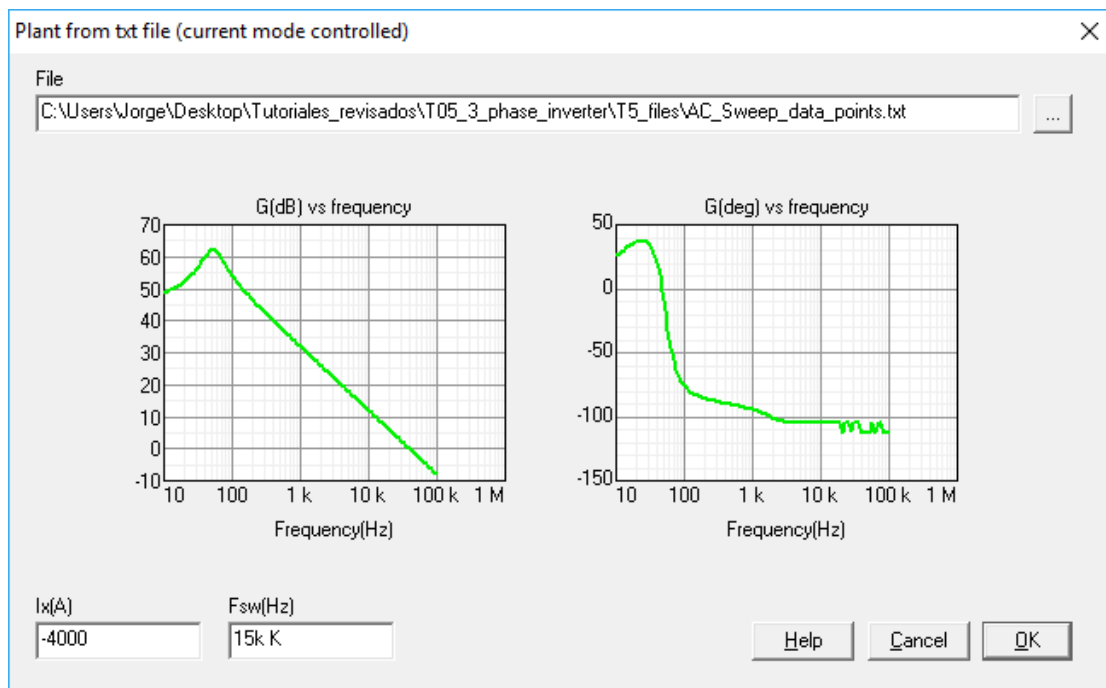

Figure 7: Input data configured in SmartCtrl
2. Configure the input data and click OK to continue. See Figure 7.